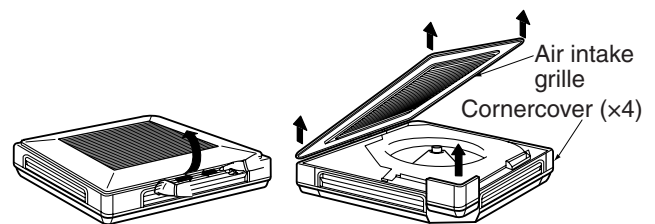

Fig. 4
- Detach the air intake grille. (Refer to Fig. 4 and 5)